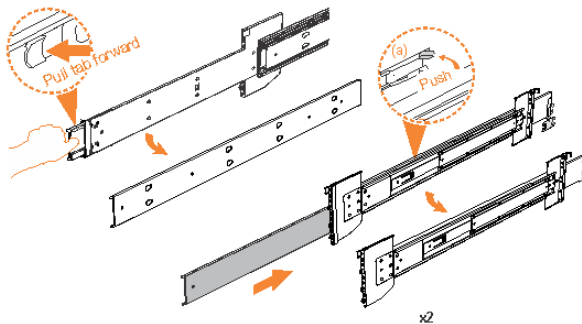

Figure 43. Detaching the inner rail section
3. Remove the inner member of the rail. Push the tab (a) and slide the middle rail member back, as shown in Figure 43 on page 85.